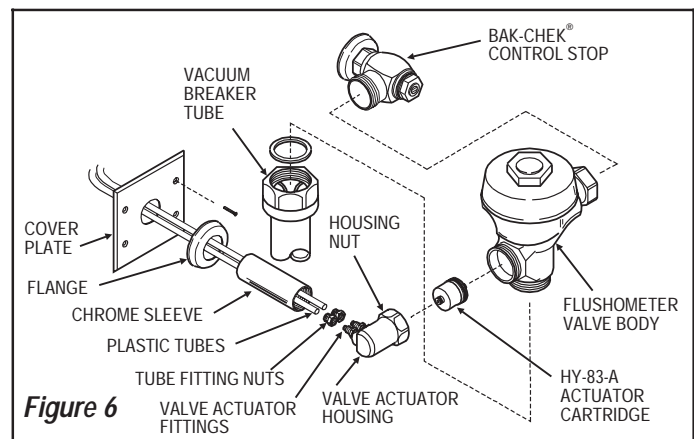

Figure 6
Step 3 — Install Valve Actuator (Figure 6)
- Insert Actuator Cartridge into Flushometer Valve Body as illustrated in Figure 6.
- Install Valve Actuator Housing onto Flushometer Valve Body as shown in Figure 6. Tighten Housing Nut hand tight.